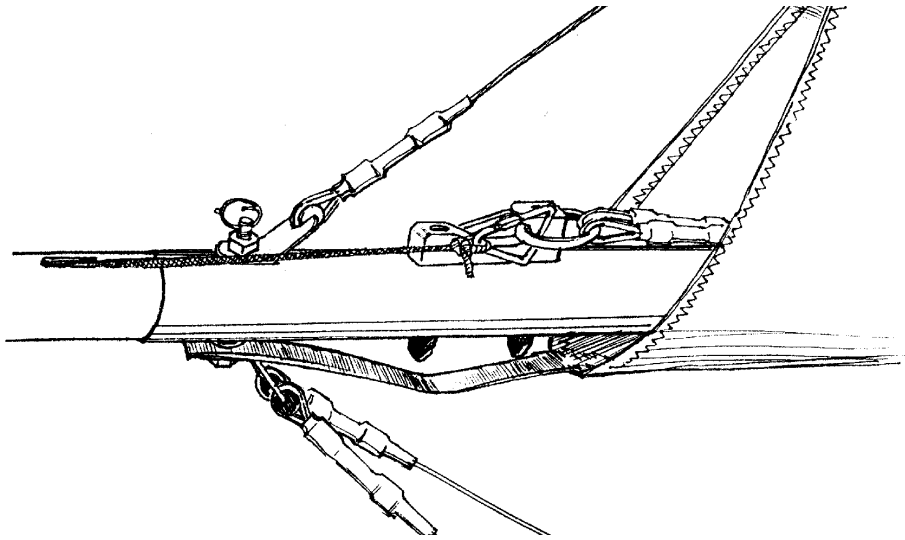

Fig. 20
2.1.22. Put the crossbar tensioning wires through the keel pocket. Don't twist the wires. Fix the maillon of rubber rope to the ring of crossbar tensioning wires (Fig.20).